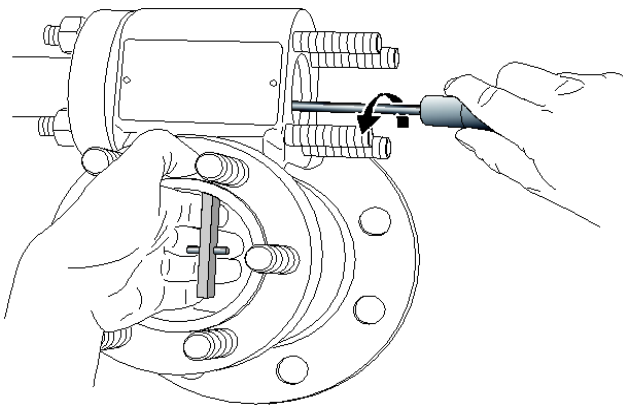

Figure 22
### 9.3. REMOVAL OF 12400 CASE AND TORQUE TUBE SUB-ASSEMBLY (SEE FIGURES 22 & 23)
To remove the displacer, the torque arm must be removed. When the two arm screws (133) are loosened, hold the torque arm so as not to damage the torque tube (Figure 22).
- c. Remove the upper flange (146) and blind flange (144).
- d. Lower the torque arm (135) and unhook the displacer (130). A hook-shaped 3 mm steel wire facilitates unhooking and holding of the displacer. The wire may be inserted through the clevis hole.
- e. Remove the two torque arm screws (133) and remove the torque arm (135) from the chamber.
- f. Remove the displacer from its chamber (131) or tank.
- g. Be sure that requirements for instruments installed in explosive areas are strictly followed. Remove screw (106) from connection compartment and unscrew cover (104). Disconnect supply electrical wires and other equipment from terminals (90).
- h. Remove nuts (142) holding the torque tube subassembly and slide the subassembly out of the mechanism chamber.
For installation, reverse the procedure outlined for removing a DLT case and torque tube sub-assembly (section 9.3). It is recommended that new gaskets (143 -149) be used when installation is performed (see figure 22).